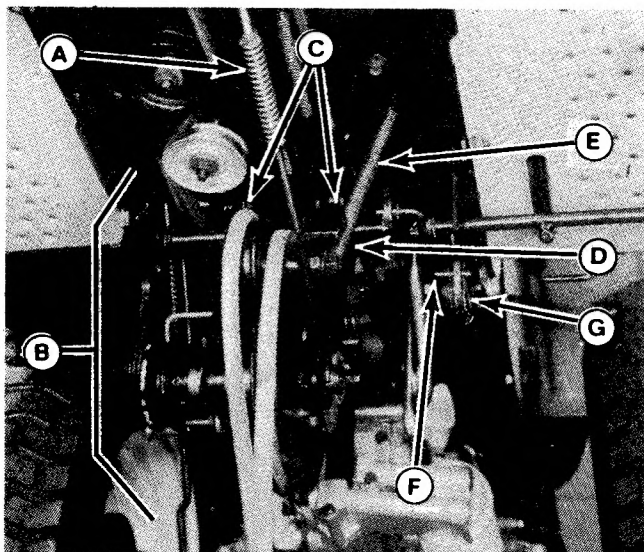
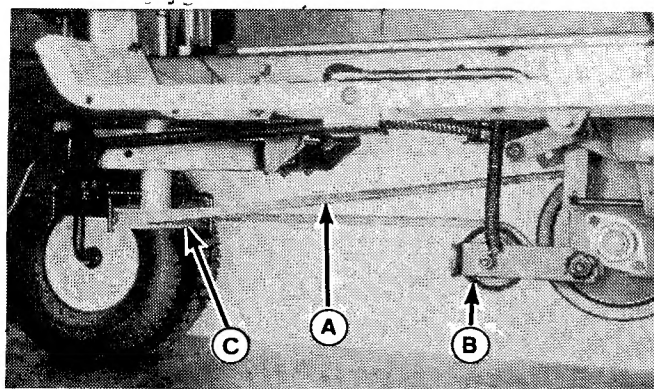
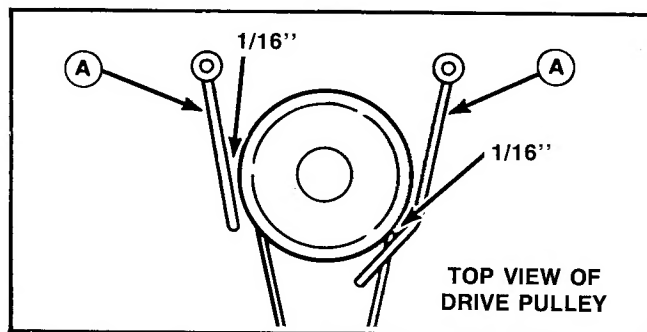

Figure 4.
Figure 5.
Figure 6.
- a. Remove neutral return rod (A, Figure 4) from pin and insert through jackshaft assembly (B) between pulley and crossshaft.
- b. Slide assembly (B) onto jackshaft bracket front bolts and nuts (C) already installed on bracket.
- c. Secure assembly with clevis pins (D) in rear. Pins must face the inside of the bracket. Insert spring clips to secure clevis pins.
3. Remove belt (A, Figure 5) from jackshaft idler pulley (B). Turn belt by hand so that higher portion of belt is on left side of tractor. Position belt around drive pulley (C) and replace belt around idler pulley (B). Make sure that belt is positioned as shown in Figure 4.
4. Position drive pulley belt guides (A, Figure 6) so that there is a 1/16" space between belt and guide. Tighten guides.
11. Spread belt guides (A, Figure 6) and remove belt (A, Figure 5) from drive pulley (C) and idler pulley. Leave belt attached to jackshaft assembly (B, Figure 4) for storage.